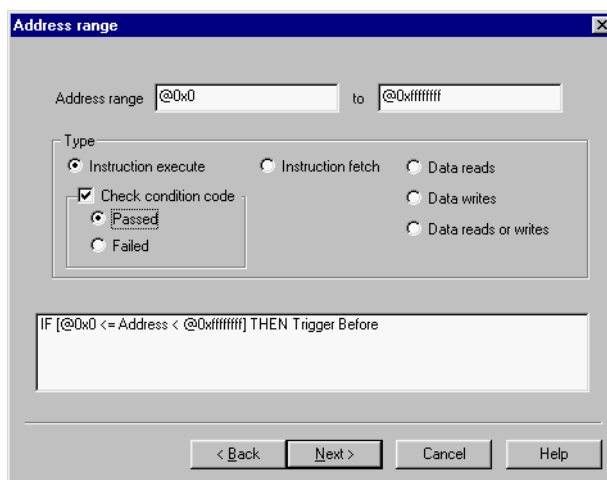

Figure 5-12 Address range dialog box
To specify a range of addresses in a rule, use an address range, as shown in Figure 5-12 on page 5-24. Address ranges are used when you want something to happen in a particular region of memory. For example, you can Enable Tracing for some part of a function, or Enable Data Tracing for the memory occupied by a global array.
4. Click **Next>**. The Include Address Range or Exclude Address Range dialog box is displayed. See Figure 5-12.
3. Click **Next>**. The Address Range dialog box is displayed (Figure 5-12). This looks and behaves like the Include or Exclude Address Range dialog box.